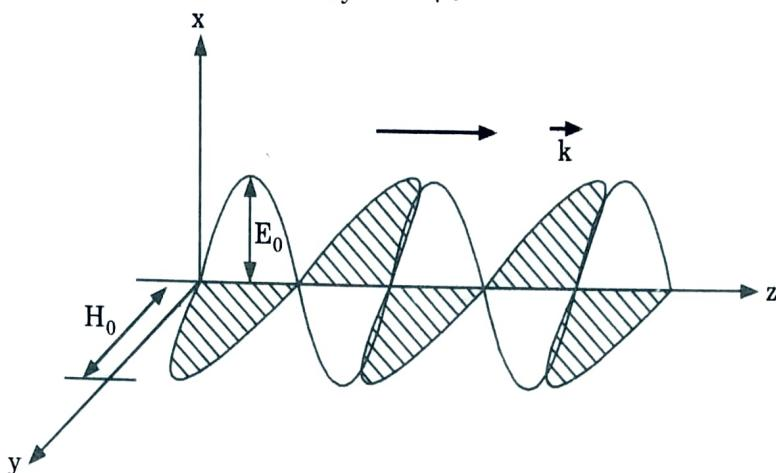

Fig. 1.12.1. A plane electromagnetic wave propagating in the $+z$ direction.
19. The plus sign is for a wave moving in the $+z$ direction and the minus sign is for a wave moving in the $-z$ direction. One can see that $\vec{E} \perp \vec{H} \perp \vec{k}$ (Fig. 1.12.1) and the vector $\vec{E} \times \vec{H}$ is parallel to the direction of propagation.